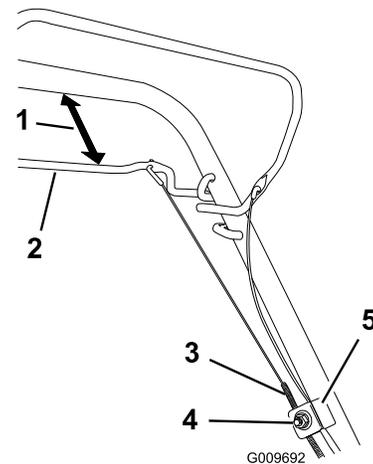

Figure 38
- Loosen the cable support nut (Figure 38).
- Hold the self-propel bail 1 to 1-1/2 inches (25 to 38 mm) from the handle (Figure 38).
- Pull down the cable jacket (toward the mower) until there is no slack in the cable (Figure 38).